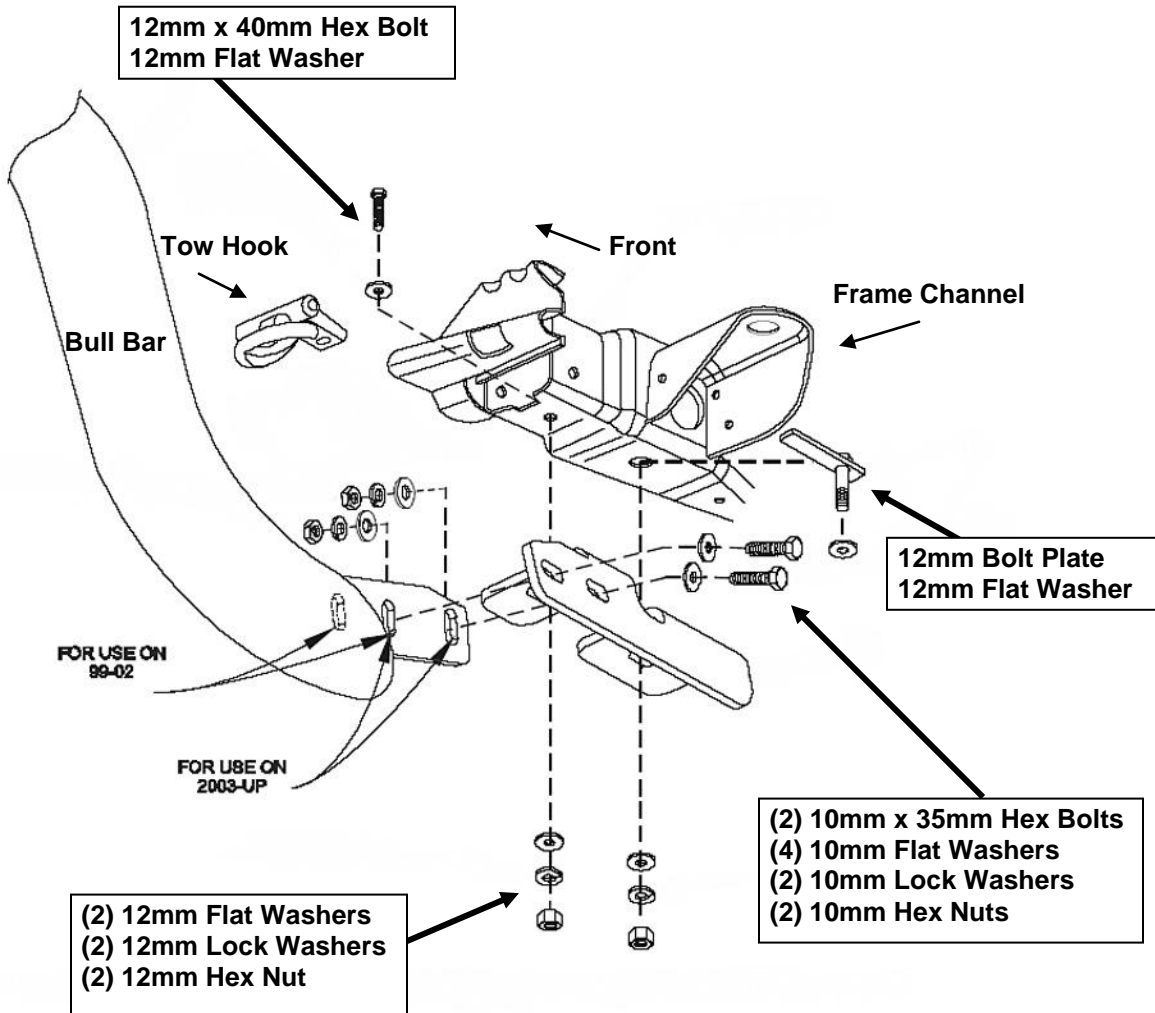

Fig 7
8. With assistance, position the Bull Bar up to the inside of the Mounting Brackets. Bolt the Bull Bar to the Mounting Brackets using (4) 10mm x 35mm Hex Bolts, (8) 10mm Flat Washers, (4) 10mm Lock Washers and (4) 10mm Hex Nuts, **(Figures 7 & 8)**.
- 1999-2002** Model Years: Push the Bull Bar all of the way in and line up the middle and forward holes with the (2) slots in the Brackets.
- 2003-2006, 2007 "Classic"**: Line up the center and rear mounting holes on the Bull Bar with the (2) slots in the Brackets.